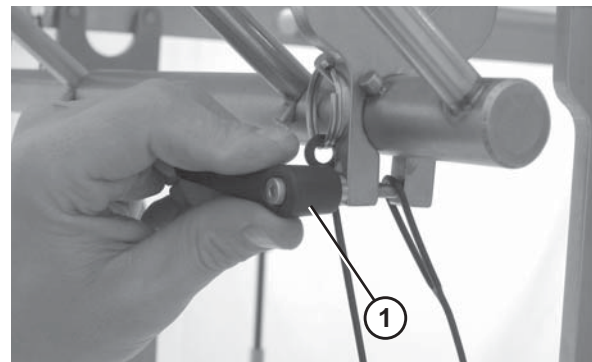

Figure 29
- Secure the scraper by tightening the handle (Figure 29, item 1).